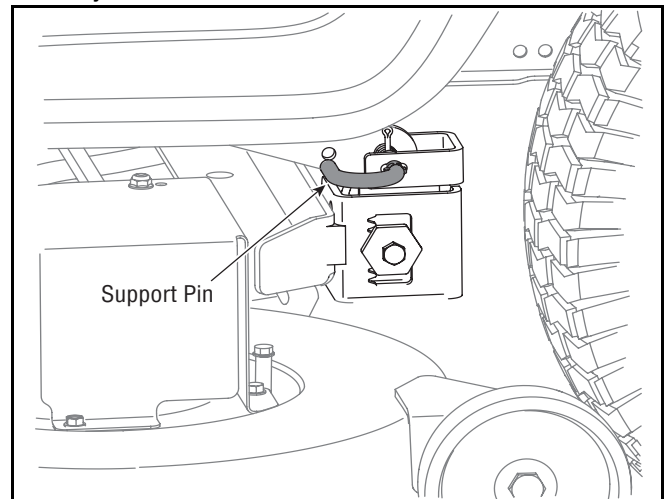

Figure 22
6. Pull the deck support pin outward to release the deck from the deck lift arm. See Figure 22.